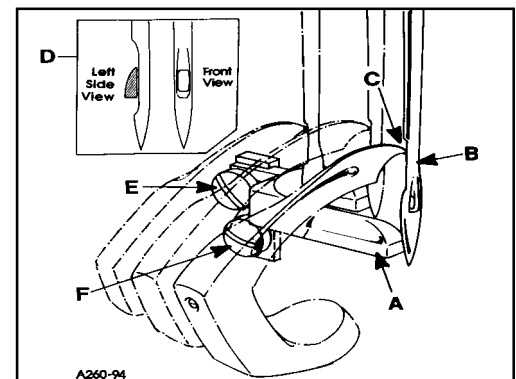
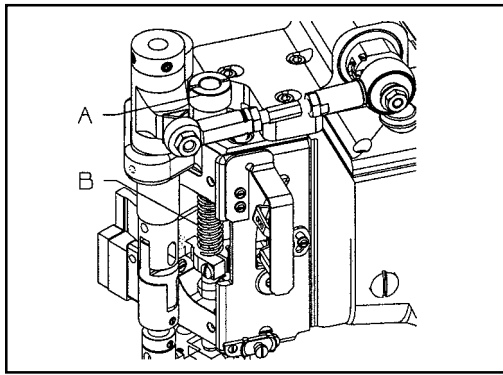
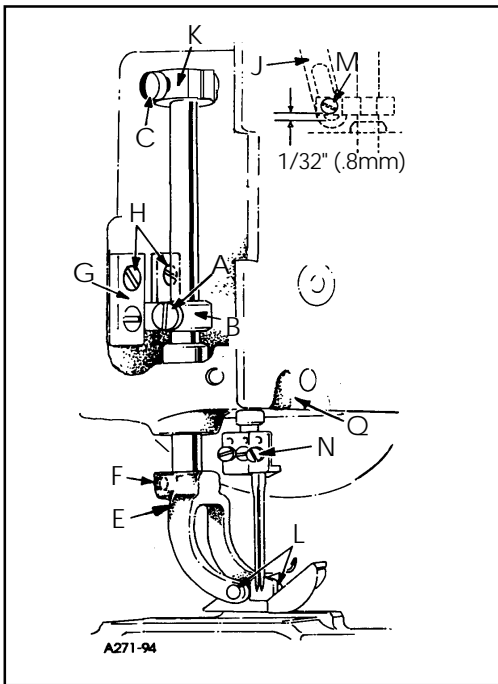

FIG. 13
FIG. 14
FIG. 15
Set the rear needle guard (A, Fig. 13) horizontally so that it barely contacts needles (B) when at its extreme forward position. If adjustment is necessary loosen screw (E) and move guard front to back as required. It should be set vertically as low as possible, yet have its guarding surface in contact with the needles until the points of the loopers (C), moving to the right, are even with the right side of the needles. If adjustment is necessary loosen screw (F) and move guard and holder up or down as required.
**NOTE:** When installing the needle it should be parallel with the eye in line of feed. If adjustment is necessary, loosen screw (N, Fig. 15) in needle head and rotate needle to attain adjustment (D, Fig. 13).
Remove presser bar knob (A, Fig. 14) and spring (B). Loosen screw (A, Fig. 15) on presser bar guide (B). (Loosen screws (C) in upper stop collar for pneumatic machines only). Slide presser bar upward high enough to slip on presser foot yoke (E) with foot attached and tighten screw (F) on flat of presser bar. Position foot so that the needle holes in the foot line up with the holes in the throat plate. Tighten screw (A)
Presser foot guide plates (G, Fig. 15) should be set so that entire presser foot and bar assembly has free movement up and down with no left to right movement.
Reinstall presser bar spring (B, Fig. 14) and knob (A), with presser foot resting on throat plate.
The presser foot should be adjusted to be 1/8" (3.17mm) above the throat plate before the feed roller mechanism begins to rise. Loosen screw (A, Fig. 15) in presser bar lifter and guide (B, Fig. 15), raise or lower guide as required to attain the specified point at which the feed roller begins to rise. Retighten screw (A) and maintain needle settings.
NOTE: There should be a minimum 1/32" (0.8mm) clearance between screw (M, Fig. 15) and the bottom of the slot in link (J).
Regulate the pressure on the presser foot by turning the presser spring regulating knob (A, Fig. 14) located on top of pressure foot spring (B)..
To remove just the presser foot, remove screws (L, Fig. 15) and replace foot, retighten screws (L).